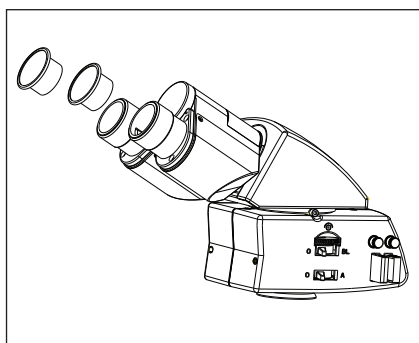

Fig.16
1. Remove the protective caps from the observation tube (See figure16).